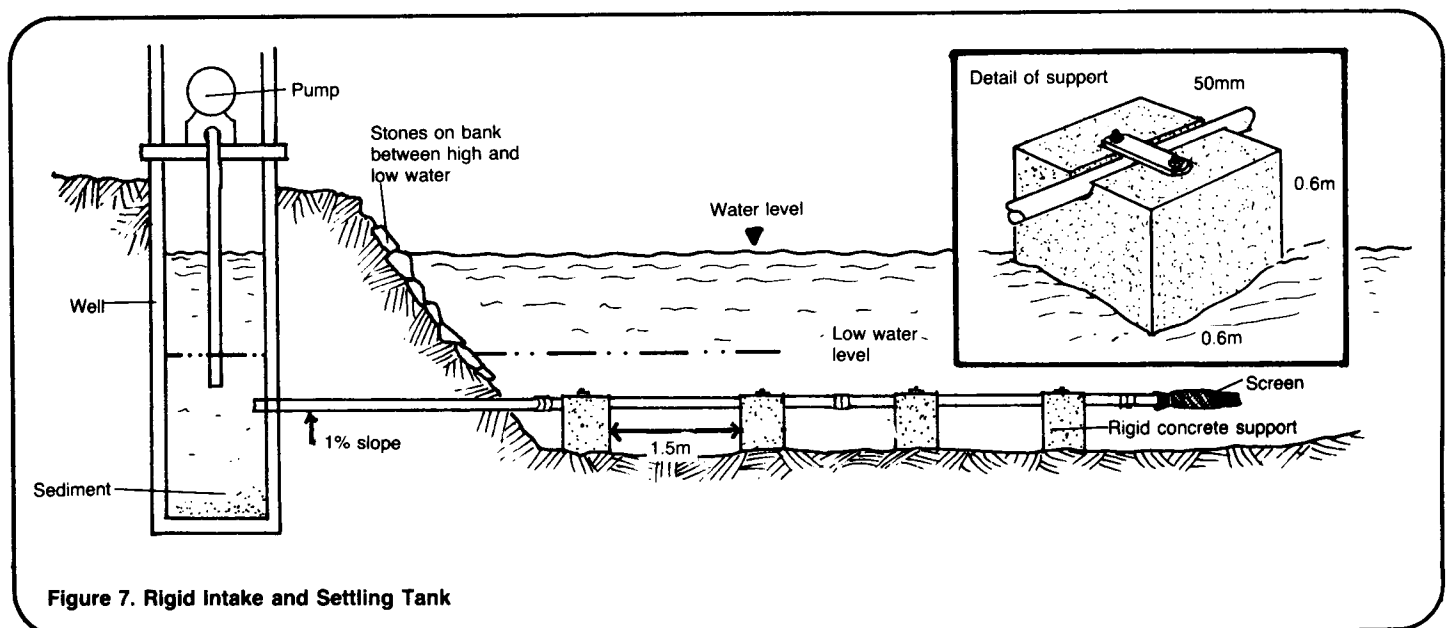

Figure 7. Rigid Intake and Settling Tank
5. Place the supports on the pond or lake bed along the line of the string. Leave at least 1.5m between each support. A general rule to follow is to use two supports for each length of pipe in order to provide sufficient support. Fix the supports in place by driving them into the bottom with a sledge hammer or by anchoring them with large rocks. If the clear water well is fed by gravity flow, the installed pipe should slope at a one percent grade toward the well. See Figure 7.